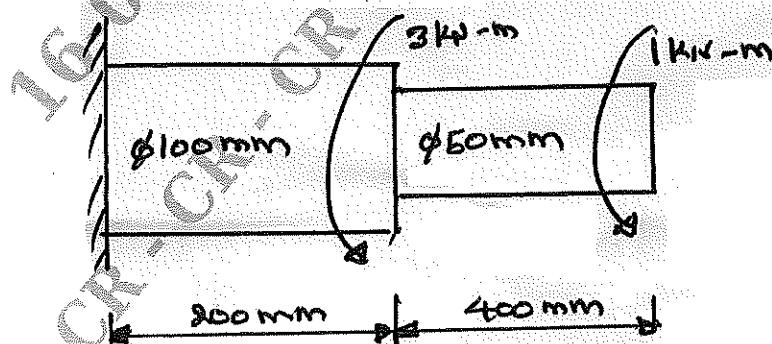

Fig.Q6(b)
b. A solid stepped bar of circular cross section shown in Fig.Q6(b) is subjected to a torque of 1 kN-m at its free end and torque of 3 kN-m at its change in cross section. Determine the angle of twist and shear stresses in the bar. Take $E = 2 \times 10^5 \text{ N/mm}^2$ and $G = 7 \times 10^4 \text{ N/mm}^2$.